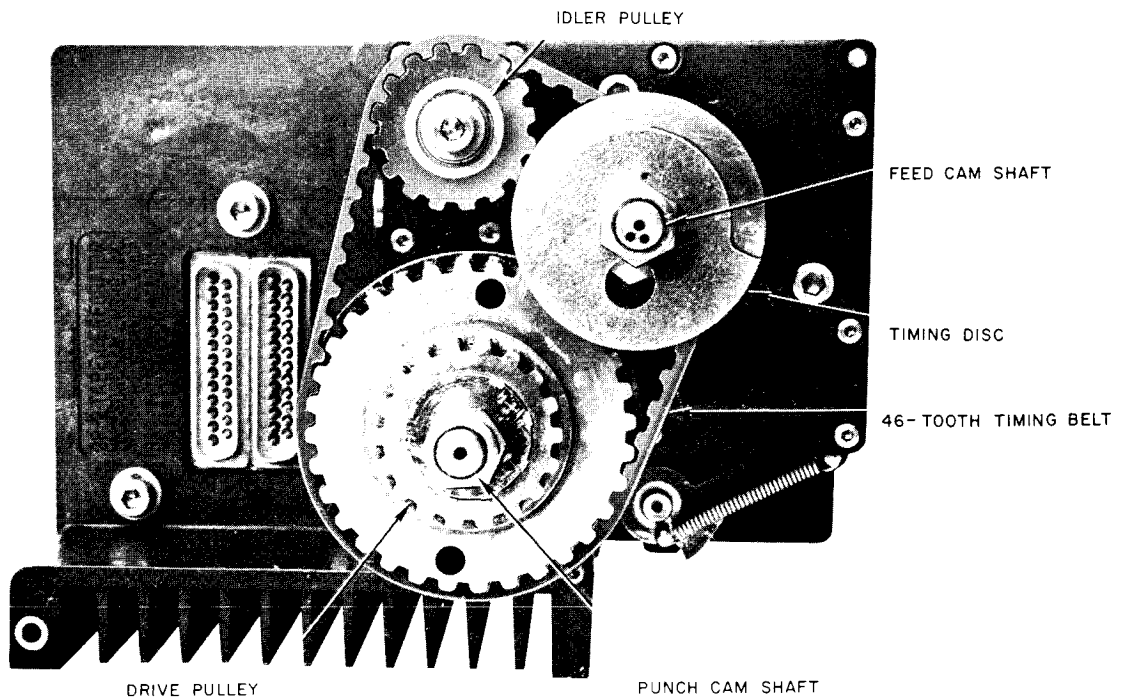
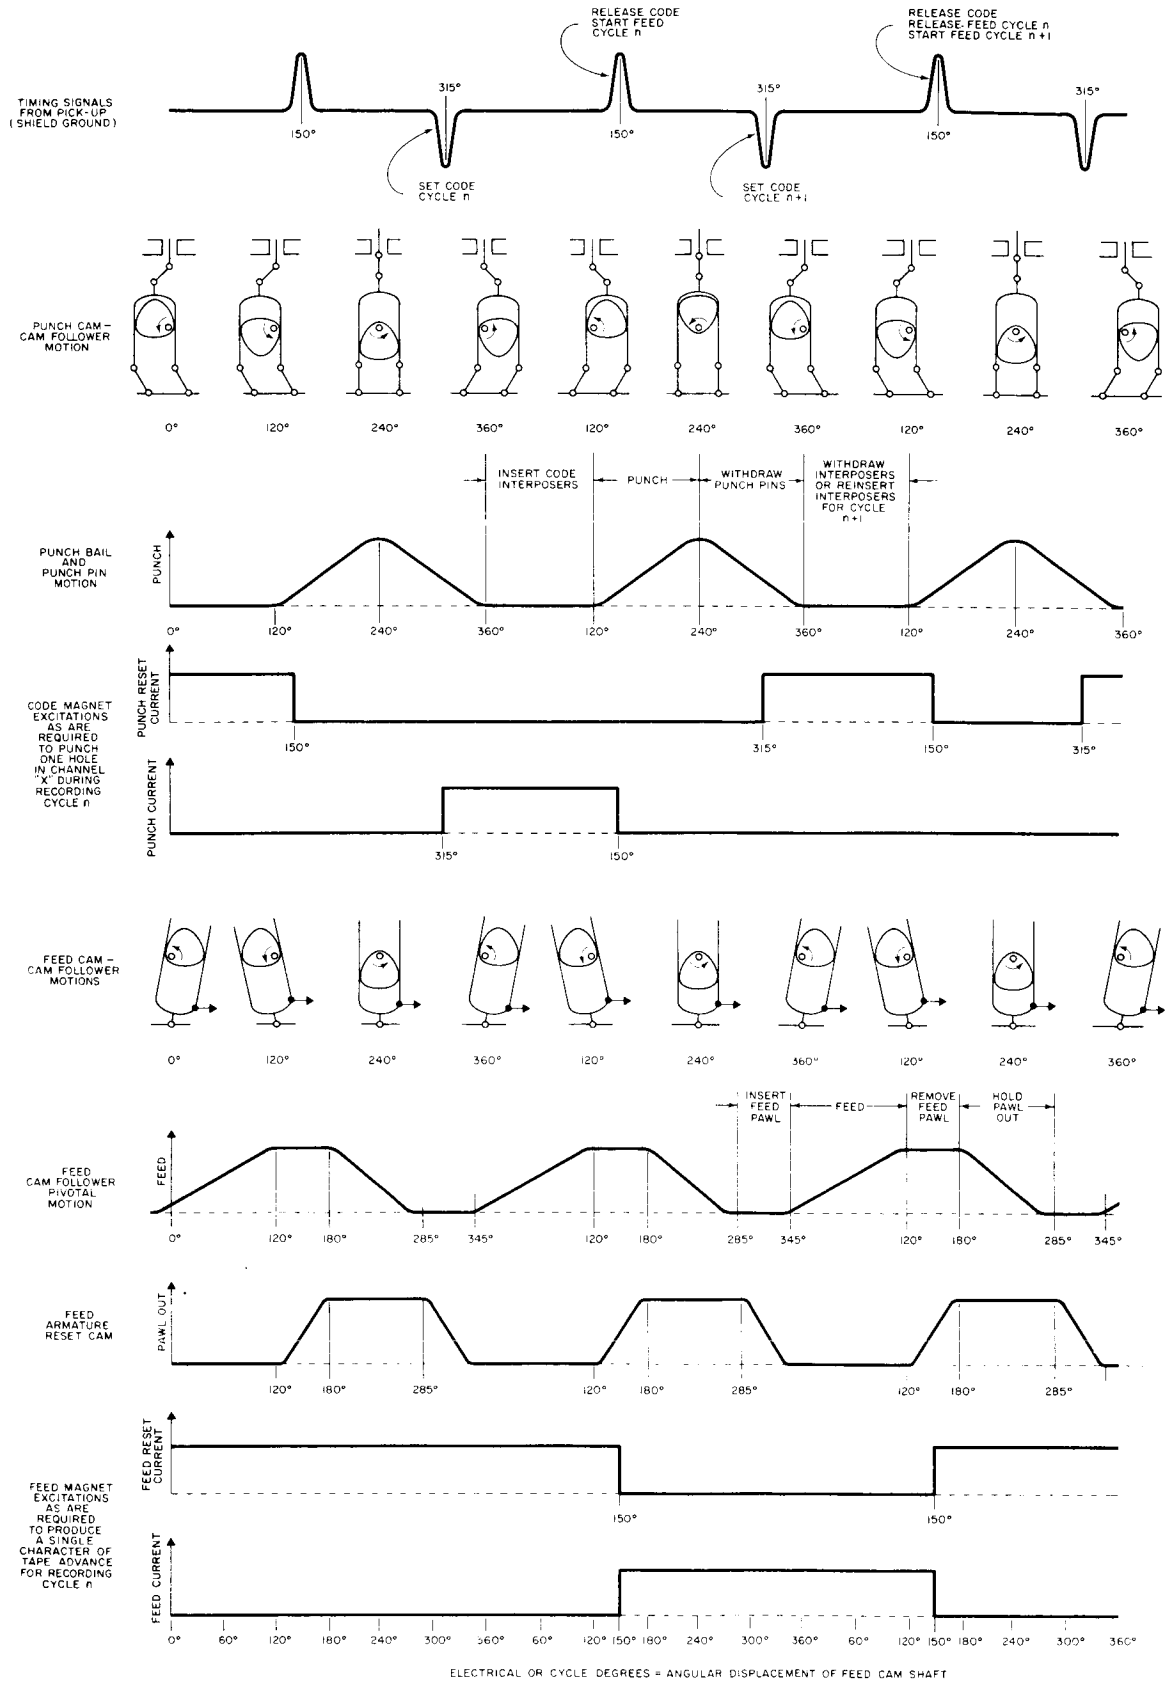

Figure 4-8. Perforator, Rear View
Figure 4-9. Perforator Timing and Waveforms
(3) TIMING UNIT. - Timing pulses for the external circuit are generated in the perforator by a pulse generator. The pulse generator consists of a rotating timing disk and a stationary reluctance pickup. The 1-1/2 inch diameter iron and copper laminated timing disk is turned by a belt driven by the perforator motor drive gear. A 195-degree sector of the iron laminate of the timing disk (figure 4-8) is routed out so that the magnetic reluctance of this part of the disk approaches that of air. The reluctance pickup consists of a permanent magnet and a coil, and is mounted in the perforator motor mount so that the air gap between the pickup and the timing disk is between 0.030 and 0.045 inch. As the disk is rotated before the reluctance pickup, the magnetic flux through the pickup coil changes suddenly, and a pulse is induced in the coil. The pulse has a width of about 1/4 millisecond and an amplitude of about two volts minimum. When the timing disk changes from iron to air, the induced pulse is positive. When, 165 degrees later, the disk changes from iron to air, the pulse is negative. A coaxial cable is used to conduct the pulse to the external circuit. The positive pulse is used to initiate and/or stop a tape feed cycle and release the code cycle. The negative pulse is used to initiate the punch code cycle (see figure 4-9).
Timing of the feed and punching operations in the perforator are arbitrarily referenced to the time 150 degrees (1.341 milliseconds) when the punch mark signal is received (figure 4-9). As stated in the description of the tape punching operation, the punch bail completes two punching cycles for each revolution of the punch cam shaft. The tape feed cam follower completes only one feed cycle for each feed cam shaft rotation. Gearing is therefore used to make the feed cam shaft turn to twice the rate of the punch cam shaft.
One complete cycle(s) of tape perforation and tape feed is illustrated in figure 4-9. The perforator operates at a speed of 240 codes per second, and therefore one cycle will take 4.16 milliseconds. During this time the feed cam shaft will turn 360 degrees, while the punch cam shaft will only turn 180 degrees. The feed pawl will be inserted or withdrawn from the internal teeth on the sprocket only while the tape is stationary. Figure 4-9 also shows that the interposers are engaged or disengaged while the punch bail is stationary at the bottom of the stroke.